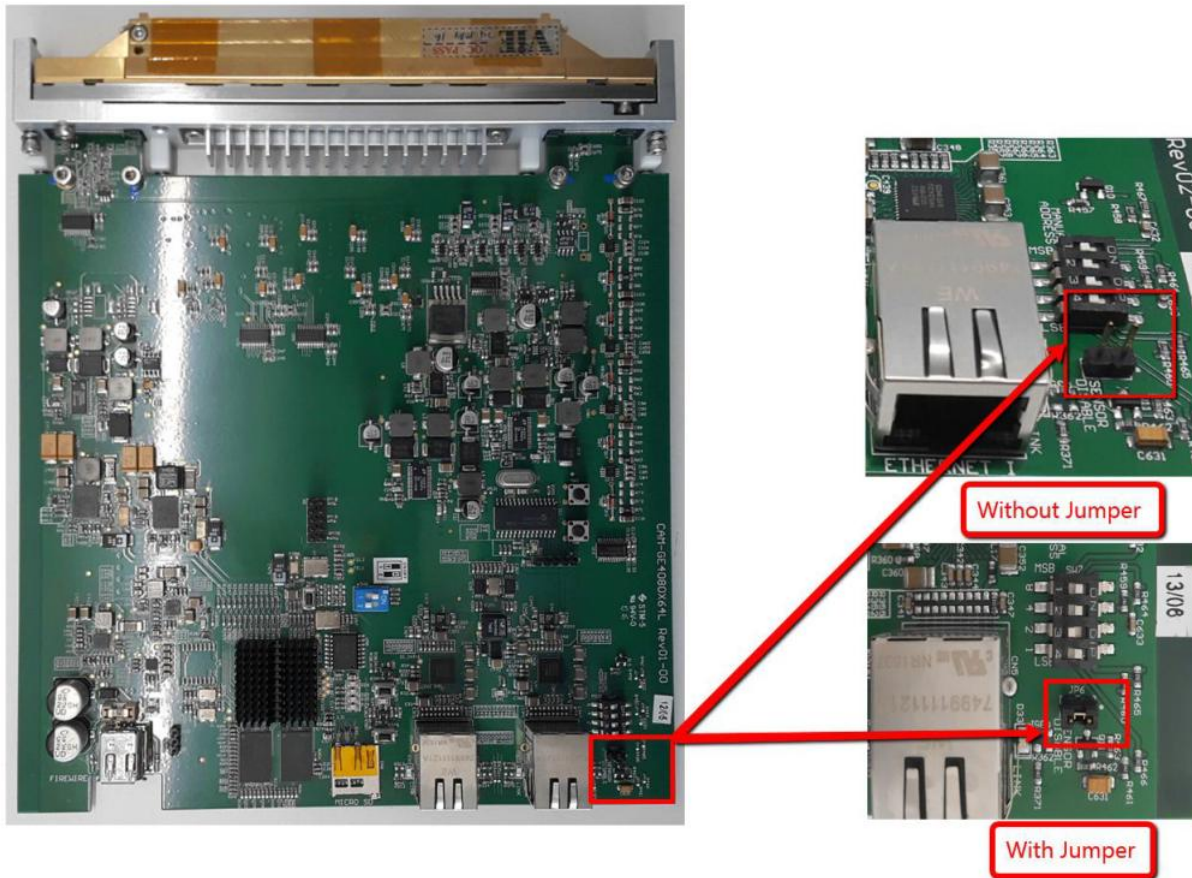

Figure 15 Jumper Slot JP6
8. Visual check JP6 Jumper where require to be plugged as below Figure 15